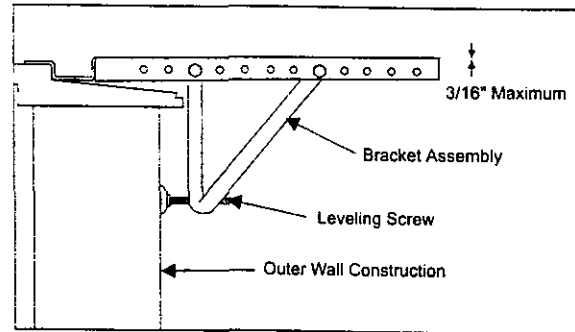

Fig 16
C. For proper condensation run-off it will be necessary to adjust the angle/pitch of the window brackets. This is accomplished by adjusting the distance of the leveling screw on the outer wall. The maximum angle/pitch should not exceed more than 3/16". See (Fig 16)
C. Check to make sure that the cabinet is slanted slightly downward on the outside. If necessary, re-adjust support bracket as shown in (Fig. 16)